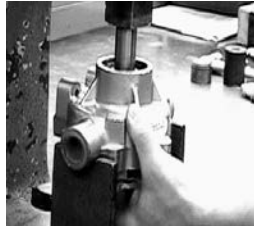

Figure 9
5. Support the pump at its ports in a support fixture with the endplate down. Wood blocks may be used. Place on press bed. Center press on pump shaft and apply pressure to press the pump apart (See Figure 9).
7. To remove the rotor with shaft from the endplate, support the endplate in a support fixture with the rotor down. Center a 3/8" bolt on pump shaft. Apply pressure to press shaft out of ball bearing (See Figure 9).